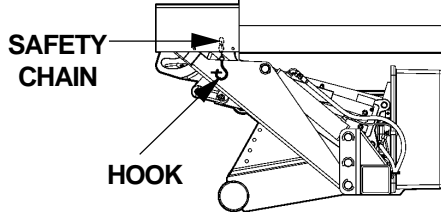

FIG. 12-1
1. Unhook Safety Chain from Liftgate (FIG. 12-1).